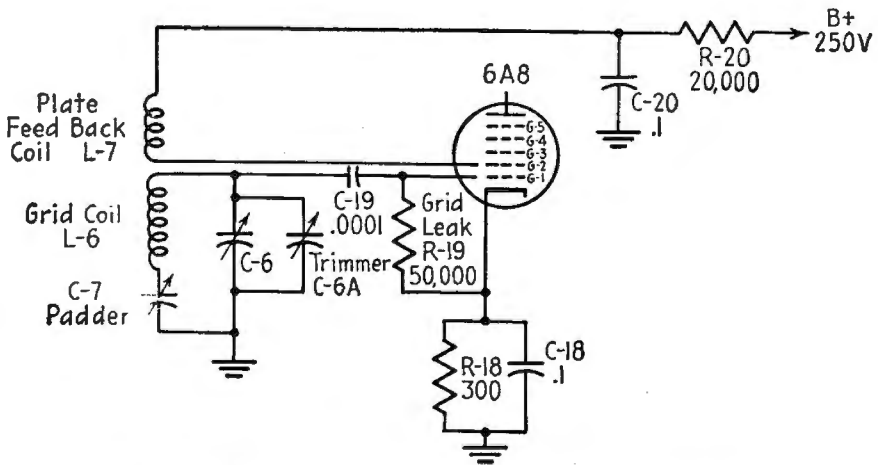

FIG. 14-2.—Oscillator circuit in the 6A8 pentagrid converter.
2. It generates an unmodulated RF signal of its own at a frequency different from the received signal. The cathode and grids *G-1* and *G-2* act as a triode oscillator. This can be more easily seen by re-drawing the oscillator stage of the converter, as shown in Fig. 14-2. Grid *G-1* acts as the oscillator grid while grid *G-2* acts as the oscillator plate or anode. Coil *L-6* and its associated condenser *C-6* are located in the oscillator grid circuit and make up the tuning section for the oscillator. Condenser *C-6* is the oscillator section of the gang tuning condenser. Feedback from the plate circuit is obtained by coupling between *L-6* and *L-7*, the latter coil being in the oscillator anode circuit. The feedback is in proper phase and of sufficient